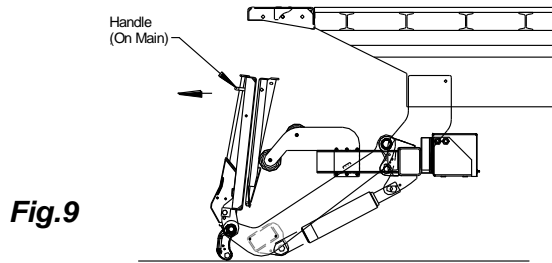
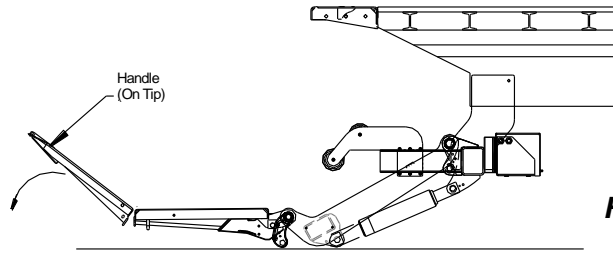

Fig.9
Fig.10
- Use the handle on the main to manually pull the platform away from the roll off wheels down to the ground, **Fig.9**. Unhook the chain on the side of the platform that secures the main section to the tip. Use the handle on the tip section to manually unfold the tip, **Fig.10**. For aluminum platforms, unhook the strap, and use the strap to unfold the platform tip manually.